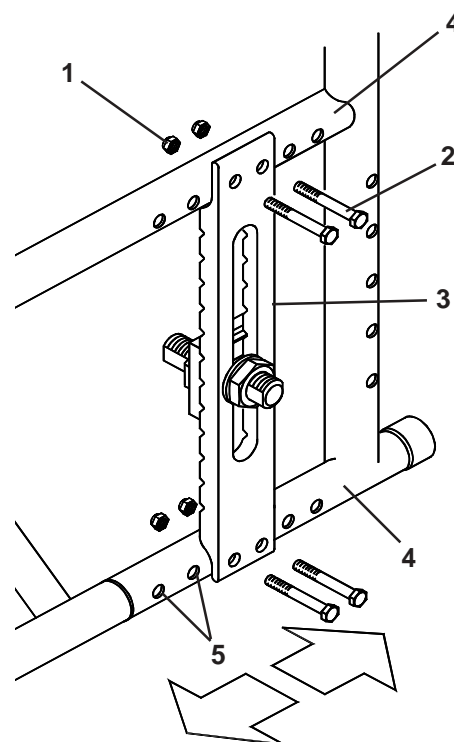

Fig. 39
The centre of gravity (Fig. 39) is adjusted by removing the four retaining nuts (1) and screws (2) from the axle plate (3), sliding the axle plate along the top and bottom frame members (4) to the required position and refitting the nuts and screws in the predrilled holes (5) in the frame. The spanner size is 10mm A/F, the screws and nuts must be tightened to 8-10Nm torque.